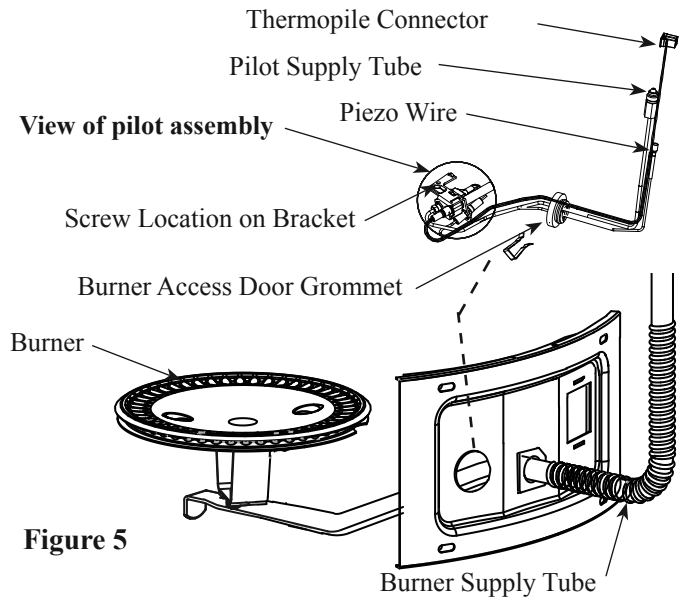
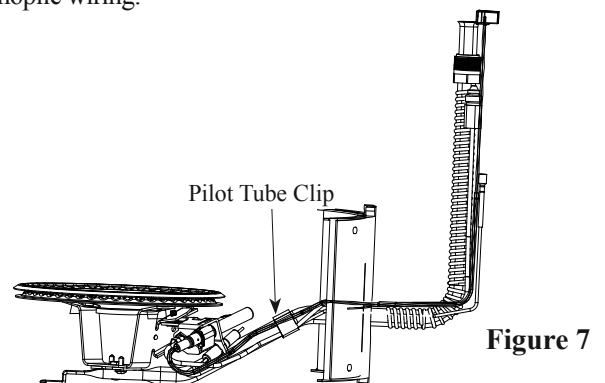

Figure 5
Figure 7
7. **NEW PILOT ASSEMBLY INSTALLATION:** Insert the new pilot assembly by placing the connection ends through the hole (combustion chamber side) on the burner access door. See Figure 5. Push the orange grommet into the hole of the door until it is properly seated. See Figures 5 & 6. **IMPORTANT:** Take care not to damage the orange grommet when you install it. Attach the new pilot assembly to the bracket on the burner and secure it with the new pilot assembly attachment screw (supplied). All replacement pilot assemblies attach directly to the burner, as shown in Figure 7. **DO NOT attach replacement pilot assembly to burner supply tube if applicable.**